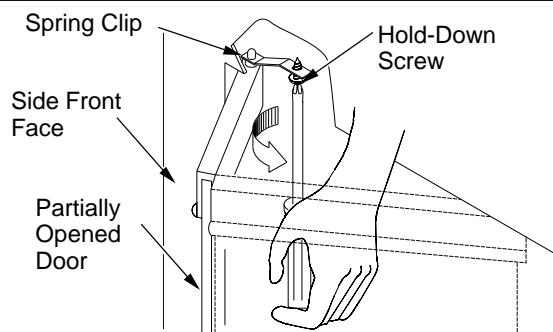

Figure 31 - Adjusting Glass Doors
7. To adjust the doors, slide them partially open. Using a screwdriver, loosen the hold-down screws in the spring clip (see Figure 31, page 15) and pivot plate.